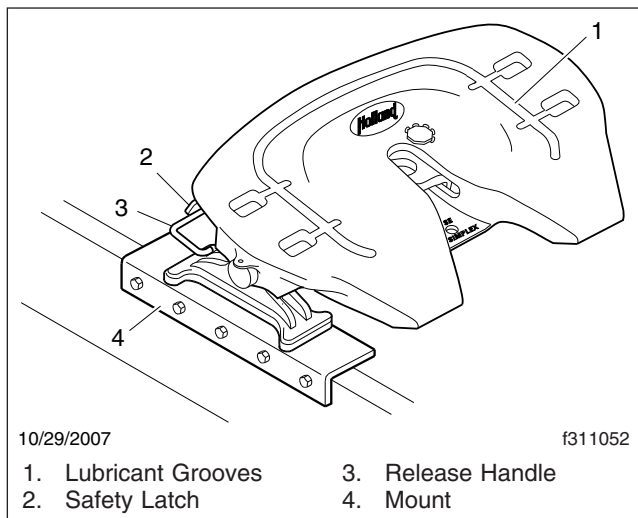

Fig. 2, Holland FWS1 Fifth Wheel
4. When the wheel is locked, the safety latch must swing free and fall freely into position. See **Fig. 2**.